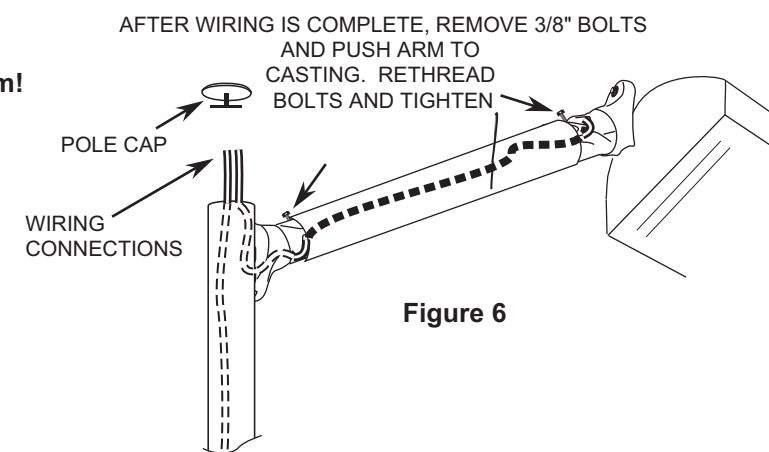

Figure 6
3. Remove the (2) 3/8" bolts from the top hole in boot castings. Slide assembly together, so the arm ends bottom out against the boot casting ends. Rethread bolts in same holes with lockwashers, this time tightening with socket wrench and 9/16" socket (See Fig. 6).